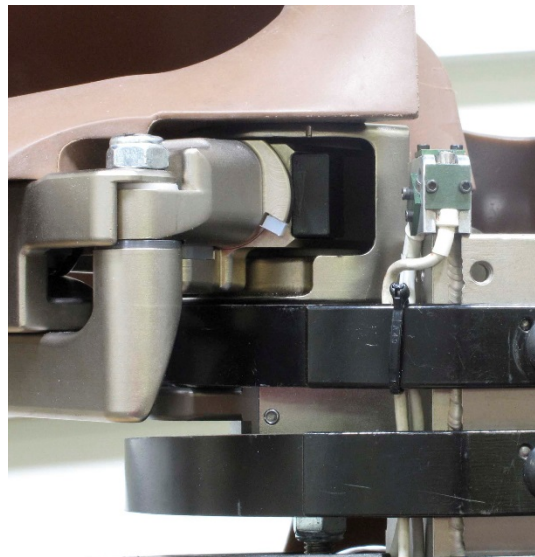

Figure 15-20. Routing T1 accelerometer wires
15.4.2.1 Direct the wiring for the T1 accelerometers behind the ribs and straight down the left side of the dummy and out of the bottom of the ribcage (Figure 15-20).